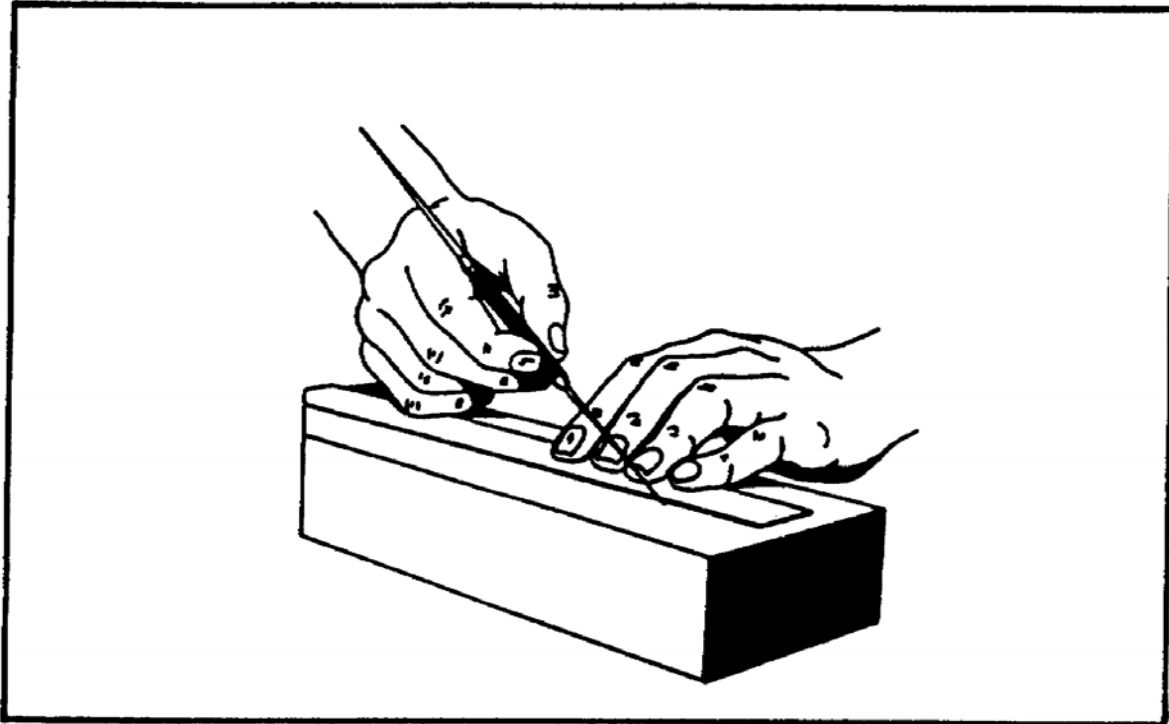

FIGURE 162. USING THE SCRIBER.
(1) Make sure the point of the scribe is sharp. To sharpen, rotate the scribe between thumb and forefinger while moving the point back and forth on an oilstone.
(2) Clean work surfaces of all dirt and oil.
(3) Place a steel rule or straightedge on the work beside the line to be scribed.
(4) Use the fingertips of one hand to hold the rule in position and hold the scribe in the other hand as you would a pencil (figure 162).